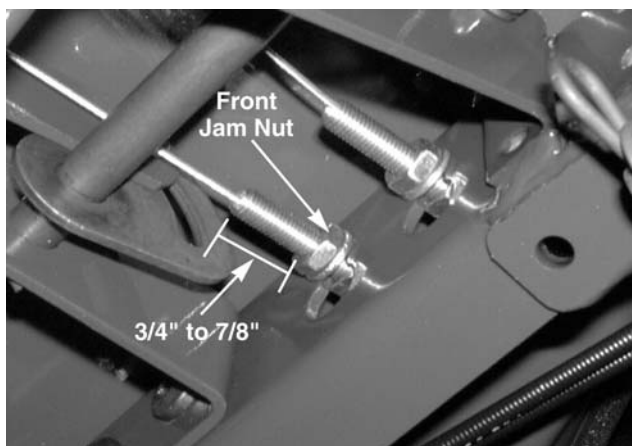

Figure 8-16.
8. By hand, tighten the front jam nut until the threaded cable end is exposed 3/4" to 7/8" past the front face of the front jam nut. See Figure 8-16.